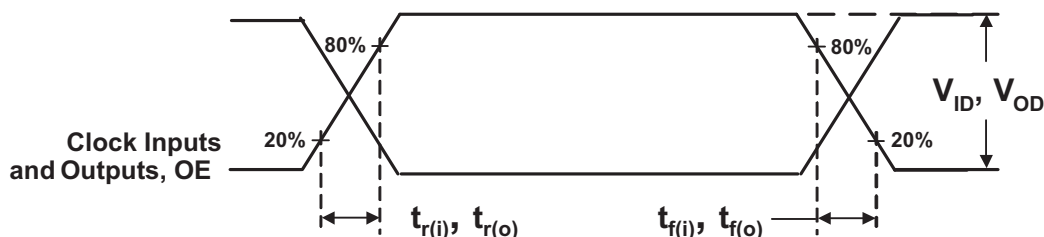

Figure 9. Input and Output Slew Rates
- (1) The PLL is turned off and bypassed for test purposes when AV_{DD} is grounded. During this test mode, V_{DDQ} remains within the recommended operating conditions and no timing parameters are specified.
- (2) V_{ID} is the magnitude of the difference between the input level on CK and the input level on $\overline{\text{CK}}$, see Figure 9 for definition. The CK and $\overline{\text{CK}}$, V_{IH} and V_{IL} limits define the dc low and high levels for the logic detect state.
(1) V_{OD} is the magnitude of the difference between the true and complimentary outputs. See Figure 9 for a definition.(2) Total I_{DD} = I_{DDQ} + I_{ADD} = f_{CK} × C_{PD} × V_{DDQ}, solving for C_{PD} = (I_{DDQ} + I_{ADD})/(f_{CK} × V_{DDQ}) where f_{CK} is the input frequency, V_{DDQ} is the power supply, and C_{PD} is the power dissipation capacitance.